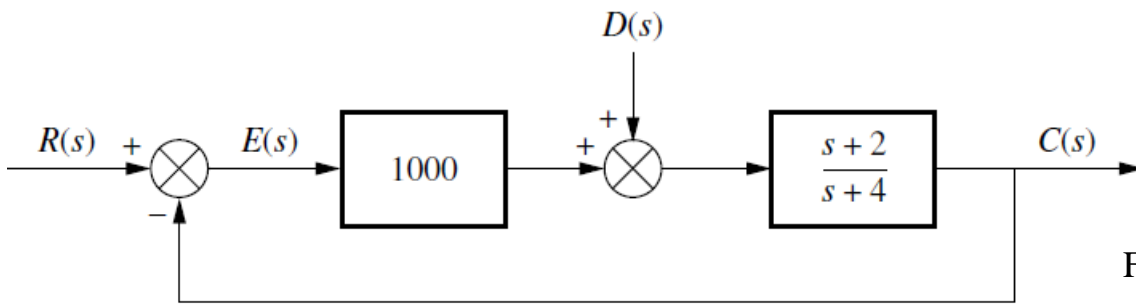

Fig. 9
10. For the system given in Fig. 9, find the steady-state error due to step input for both of reference input  $R(s)$  and the disturbance  $D(s)$ .